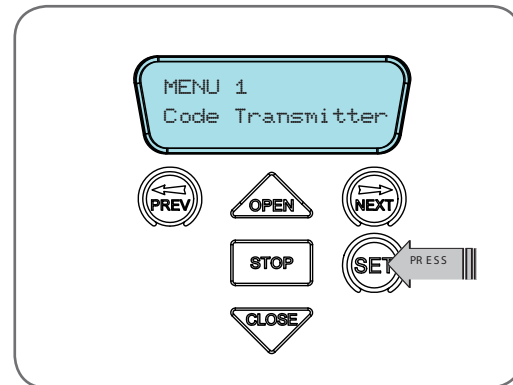

fig 16
2. Press SET to enter the code set procedure (Fig. 16).